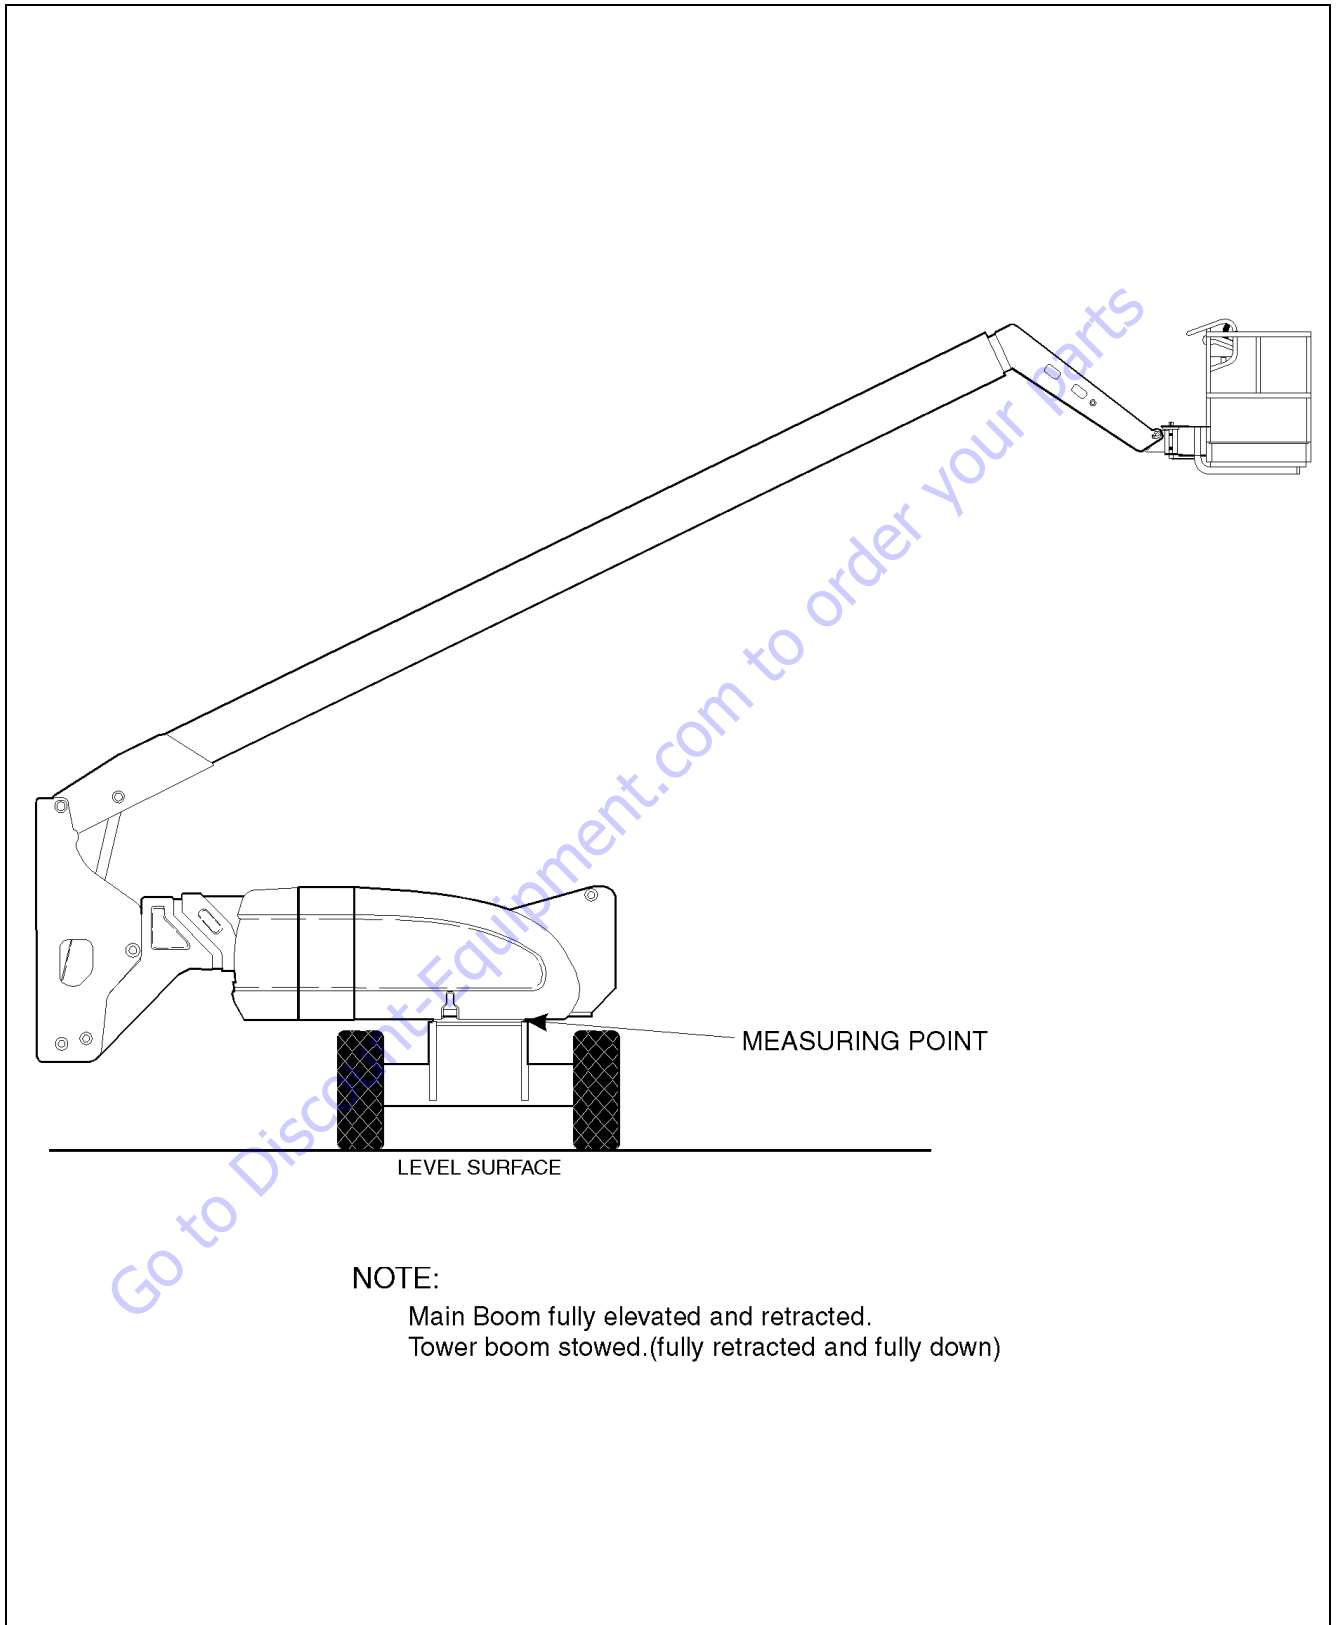
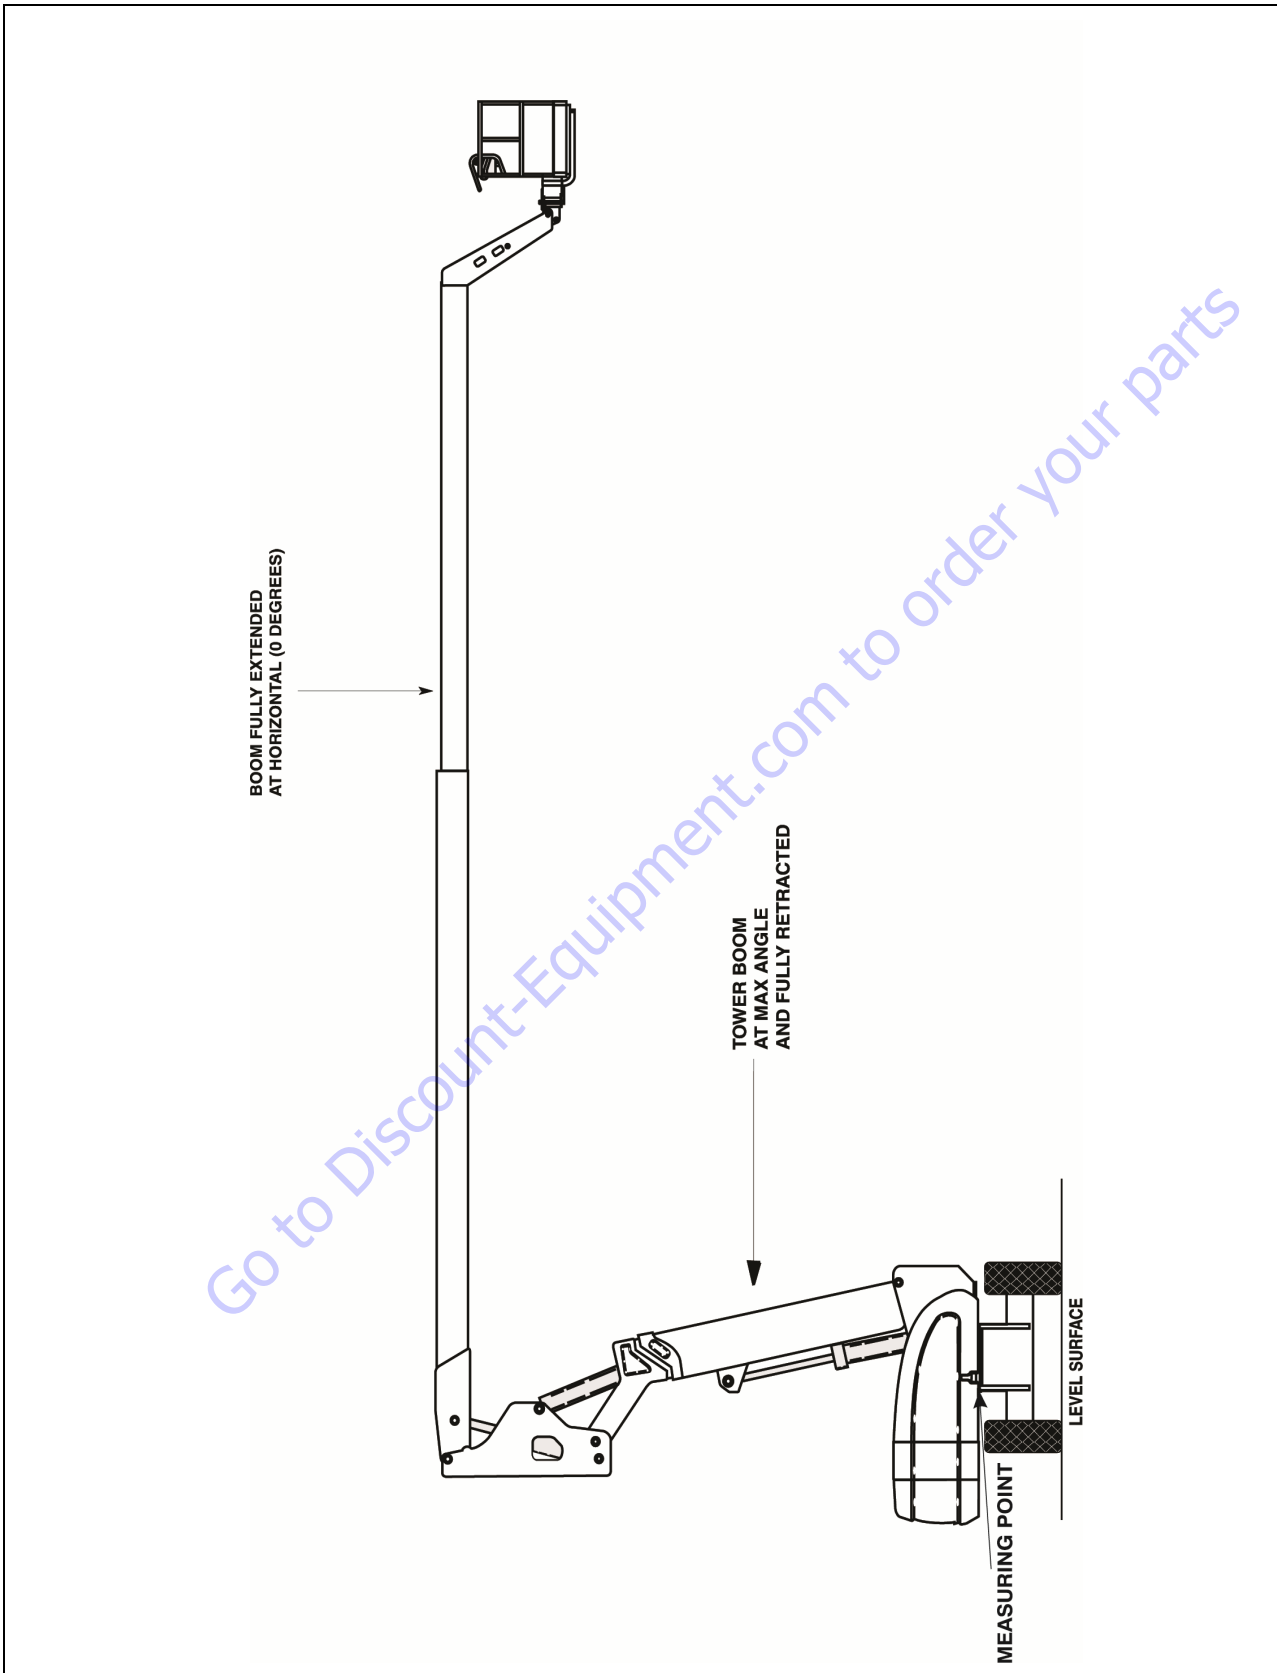
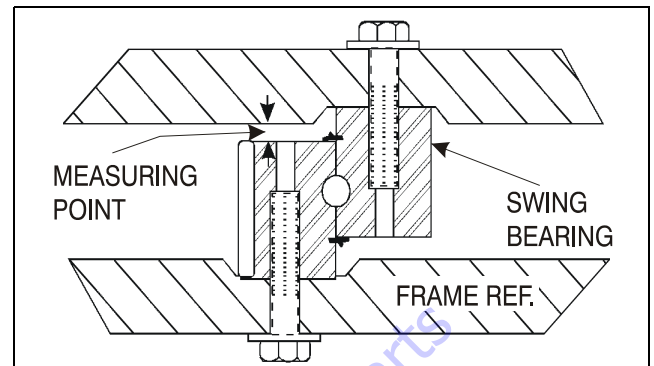

Figure 3-39. Swing Bearing Tolerance Boom Placement (Sheet 1 of 2)
Figure 3-40. Swing Bearing Tolerance Boom Placement (Sheet 2 of 2)
Figure 3-42. Swing Bearing Tolerance Measuring Point
- a. Elevate the fully extended main boom to horizontal. (See Figure 3-40.)
- b. At the position indicated on Figure 3-39. try to insert the 0.0015" feeler gauge between the bolt head and hardened washer at the arrow indicated position.
1. From the underside of the machine, at rear center, with the main boom fully elevated and fully retracted, and tower boom stowed, as shown in Figure 3-39., Swing Bearing Tolerance Boom Placement (Sheet 1 of 2), using a magnetic base dial indicator, measure and record the distance between the swing bearing and turntable. See Figure 3-42., Swing Bearing Tolerance Measuring Point
2. At the same point, with the main boom at horizontal and fully extended, and the tower boom fully elevated and fully retracted as shown in Figure 3-40., Swing Bearing Tolerance Boom Placement (Sheet 2 of 2). Using a magnetic base dial indicator, measure and record the distance between the swing bearing and turntable. See Figure 3-42., Swing Bearing Tolerance Measuring Point